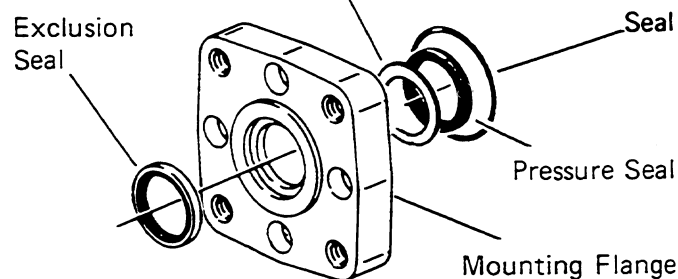
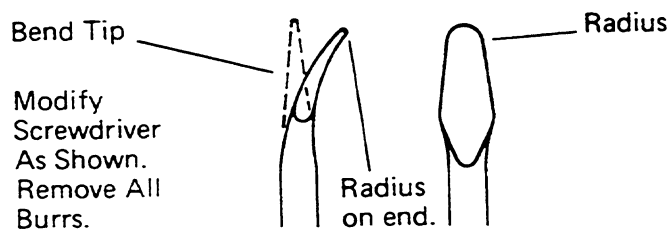

Figure 7
Figure 8
**16** Exclusion seal, back-up ring, pressure seal and seal will come off with flange (Figure 7). Use seal removal tool, shown in Figures 8 and 9, to remove exclusion and pressure seals.